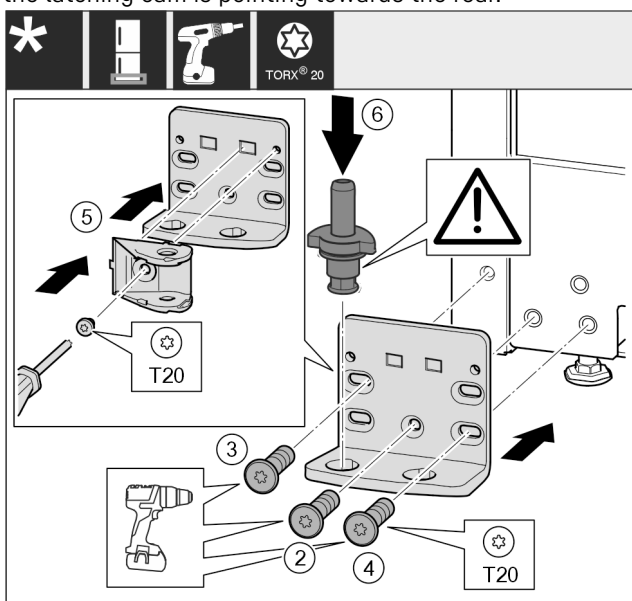

Fig. 21 \*
- Place the swap bearing block on the other side and use a screwdriver to screw it on. Start with the screw Fig. 21 (2) at the bottom in the middle.\*
- Tighten screw Fig. 21 (3) and screw Fig. 21 (4).\*